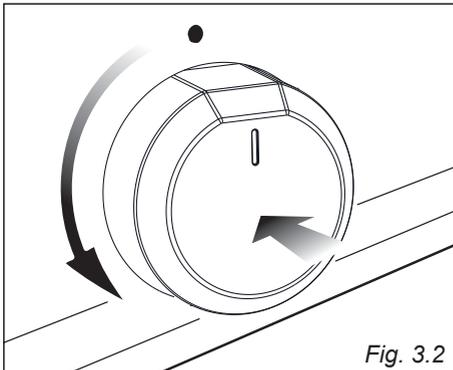

Fig. 3.2
- Position the U bolts onto terminal block “B” (fig. 3.1) according to the diagram in fig. 3.2.
- Connect the wires to the terminal block “B” as shown in the diagram in figure 3.2.
1. Press in the corresponding knob and turn counter-clockwise (fig. 3.2) to the full flame position marked by the  symbol (fig. 3.1) and hold the knob in until the flame has been lit.